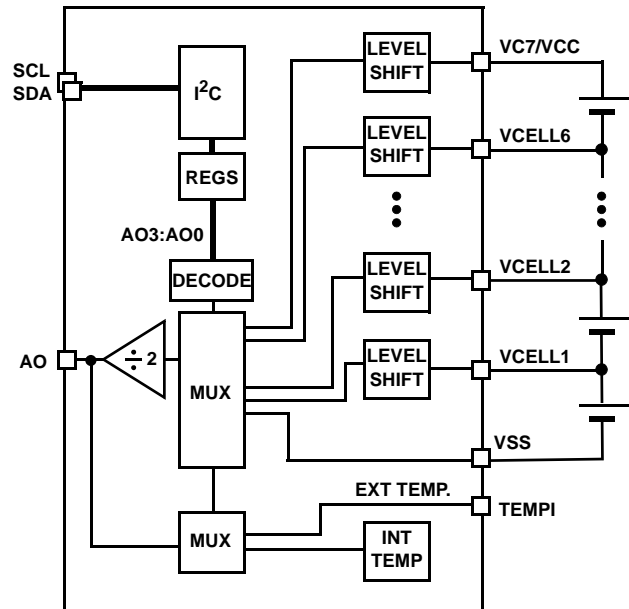

FIGURE 6. ANALOG OUTPUT MONITORING DIAGRAM
The ISL94200 devices can be used to externally monitor individual battery cell voltages and temperatures. Each quantity can be monitored at the analog output pin (AO). The desired voltage is selected using the I²C interface and the AO3:AO0 bits. See Figure 6.